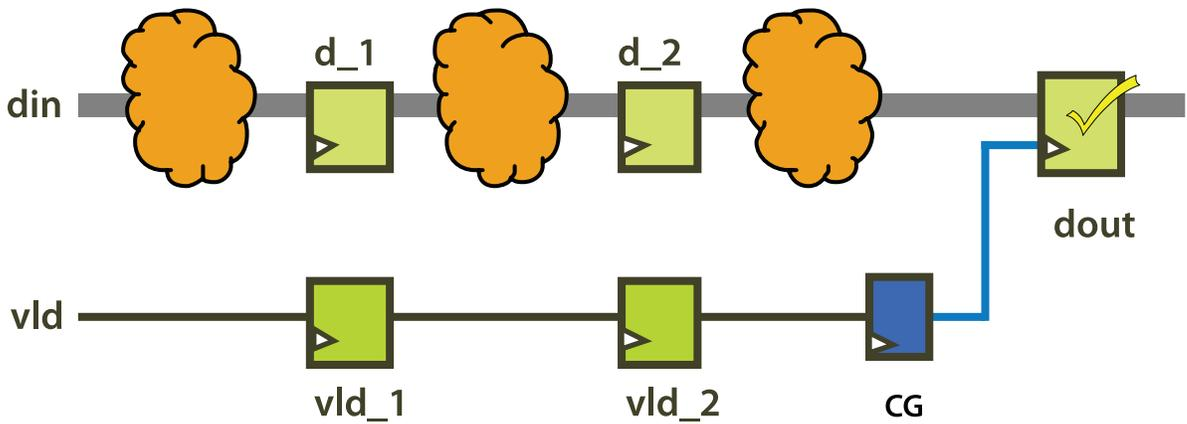

Figure 2: Typical logic synthesis tool clock gate
Sequential clock gating has a big impact on power savings because it shuts off registers and the datapath logic driven by those registers to reduce switching activity. Normally, sequential clock gating requires an experienced engineer to analyze the sequential behavior of the design over multiple clock cycles to decide what registers can be gated and under what enable conditions. PowerPro automates this process by performing sequential analysis over many clock cycles. Figure 2 shows a typical approach for adding a clock gate (CG) for a register that a logic synthesis tool might utilize.